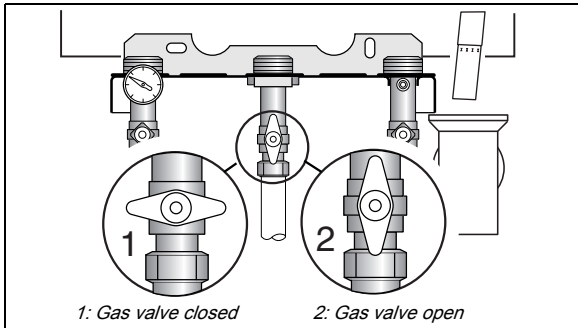

fig. 8 Gas service valve
- Close the gas service valve by turning it clockwise (fig. 8, item 1).
- Close the gas valve (fig. 8, item 1).